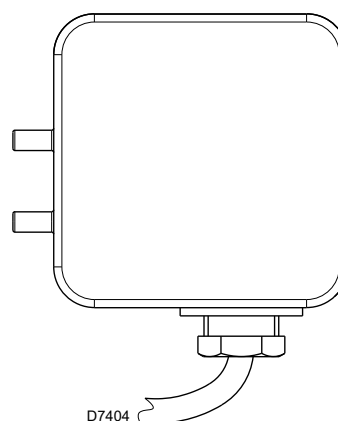

Fig. 19
- Adjust the air pressure switch (Fig. 19) to the start of the scale.
Adjust the air pressure switch (Fig. 19) after performing all other burner adjustments with the air pressure switch set to the start of the scale.